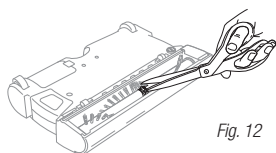

Fig. 12
- 3 Remove all hair, string or fibers wrapped around the brush bar. Using a pair of scissors, carefully cut along the raised guide to remove anything wound around the brush bar. Avoid damaging or cutting the bristles. (Fig. 12)